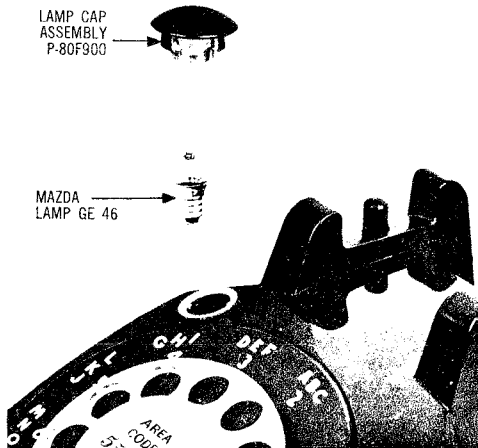

Fig. 28 — Lamp Assembly, 500UR Set
- (f) *Dial Light*: to remove, turn lamp cap and lamp counterclockwise (Fig. 28) and lift out.
Lamp Assembly Shown in Fig. 28.